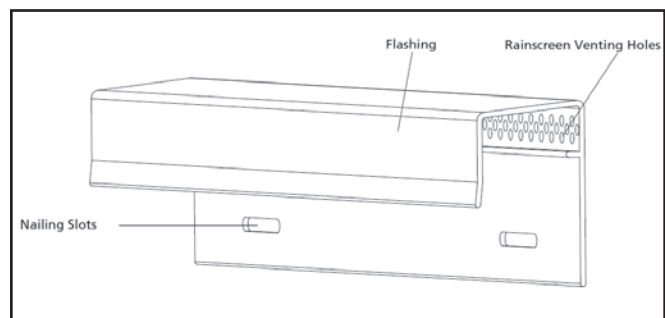

Figure 7. The top-of-wall flashing has ventilation holes at the rear.
- Top-of-wall venting flashing (see Figure 7).